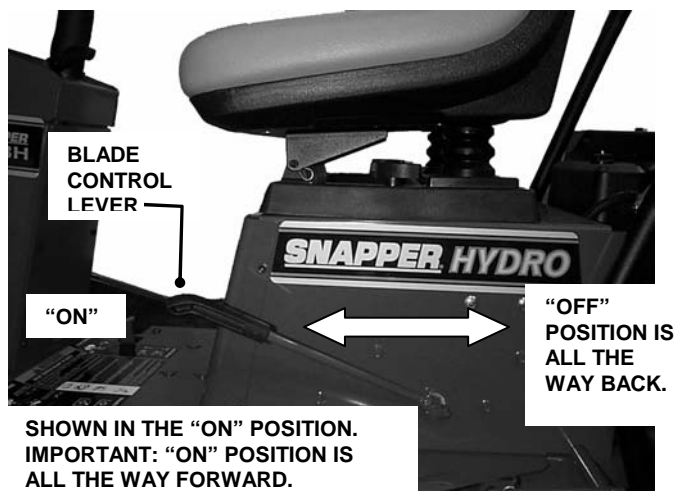

FIGURE 2.9
2. Move blade control lever forward to the "ON" blade engaged position. See Figure 2.9.